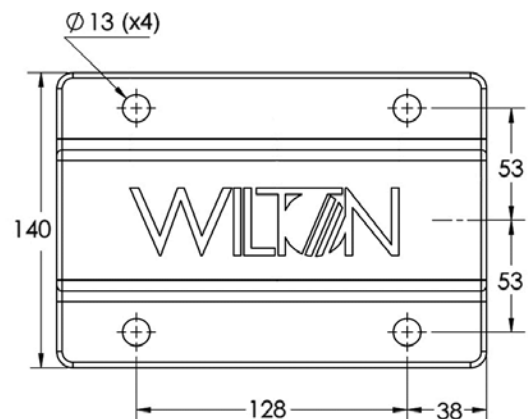

Figure 3 (dimensions in millimeters)
Refer to Figures 3 and 4.
2. Place bench receiver over vise tube and mark hole positions on bench. Figure 3 identifies hole dimensions. Drill holes of appropriate diameter in table.